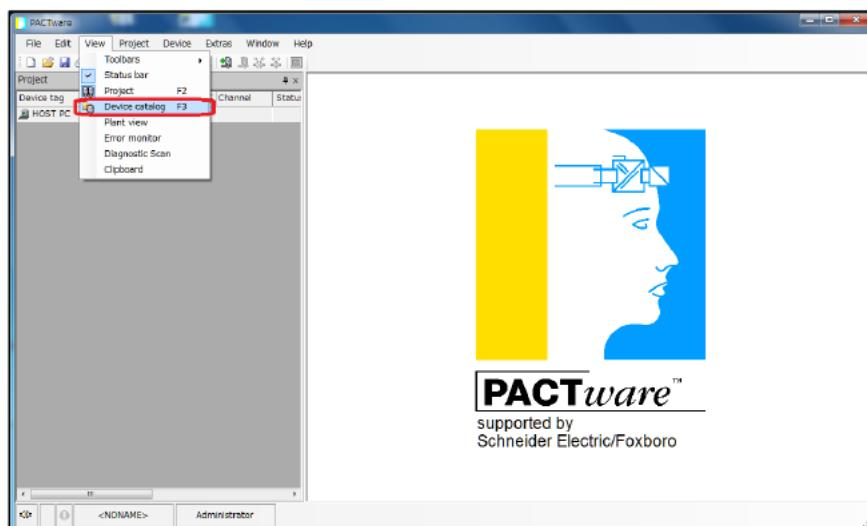

Figure 5-18 PACTware main window (Device catalog menu selection)
- ① Launch PACTware.
- ② Select Main menu ⇒ View ⇒ "Device catalog". (Figure 5-18)